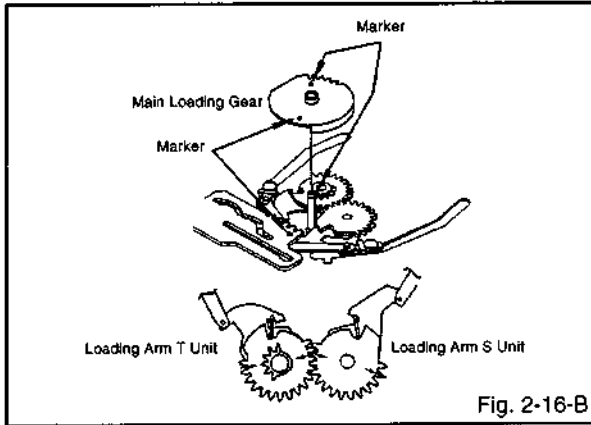

Fig. 2-16-B
### 2-16: LOADING GEAR S/T UNIT (Refer to Fig. 2-16-A)
1. When you install the Loading Arm S Unit, Loading Arm T Unit and Main Loading Gear, align each marker. (Refer to Fig. 2-16-B)